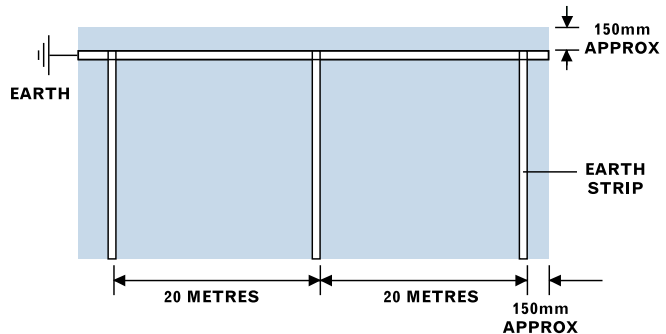

Figure 1 Earthing strip layout
- ▶ The earth strip is laid 150mm from one side of the room, in the same direction as the vinyl sheets are to be laid. This strip is connected to a known earth (fig. 1).